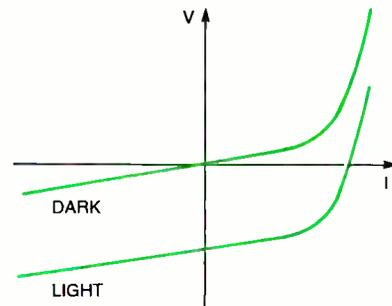

Fig. 2. These curves illustrate the VI characteristic of a PIN photodiode.
When not exposed to light, the diode follows the normal voltage-current (VI) characteristics expected of a diode. In the reverse direction, virtually no current flows, but in the forward direction it steadily increases, especially after the knee or turn-on voltage is reached. This characteristic is modified in the presence of light as shown in Fig. 2. When used as a photodiode, the greatest effect is seen in the